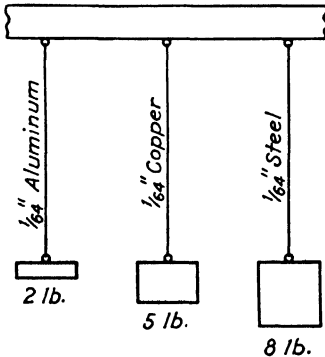

Fig. 207.
**A. Demonstration 1.** Take three wires—one aluminum, one copper, and one steel—all  $\frac{1}{8}$  in. in diameter and suspend them as shown in Fig. 207.